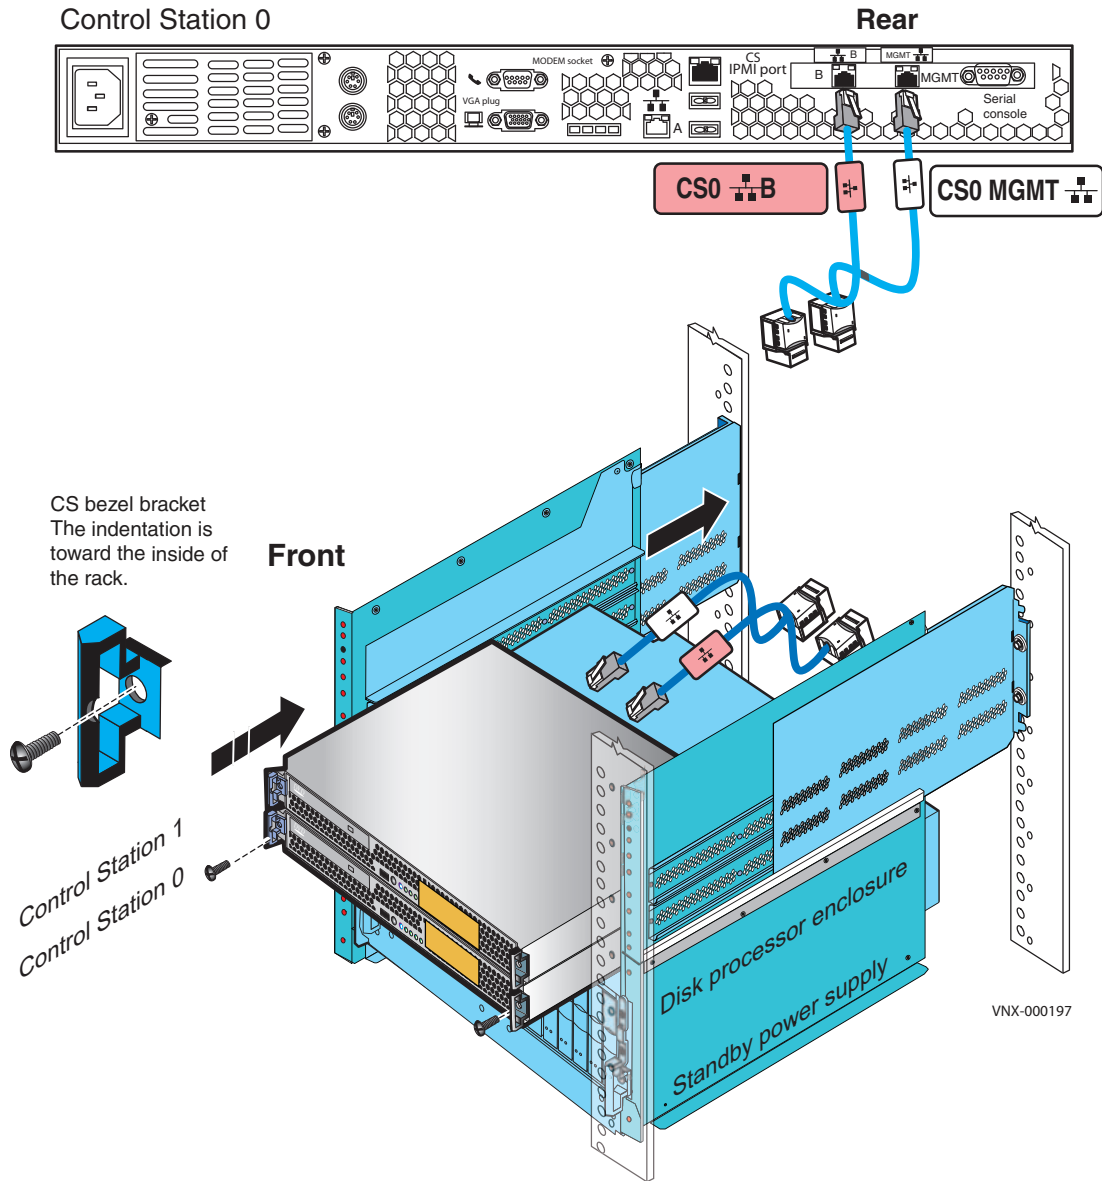

Figure 11 Installing the Control Station(s) and extension cables
1. Slide the primary Control Station (CS0) into the lowest slot above the DPE as shown in Figure 11 on page 23.